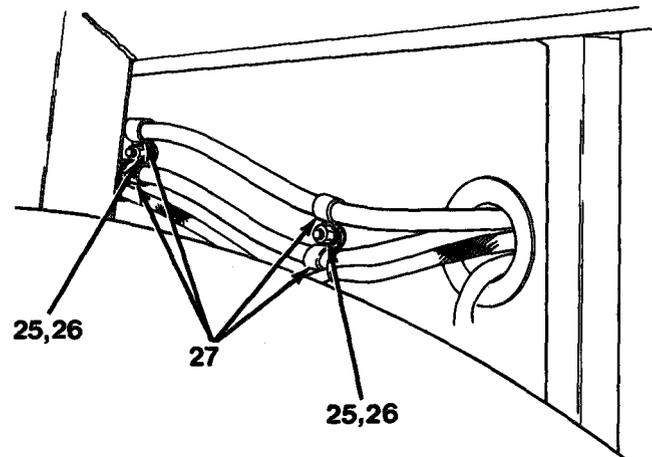

Figure 10-5
18. Install jumper cable (6) to batteries (4) and (2).
19. Connect cable (5) and two white wires to cable (3).
20. Install cable (3) to battery (4).
21. Install four clamps (27), two washers (26) and nuts (25, Figure 10-5).